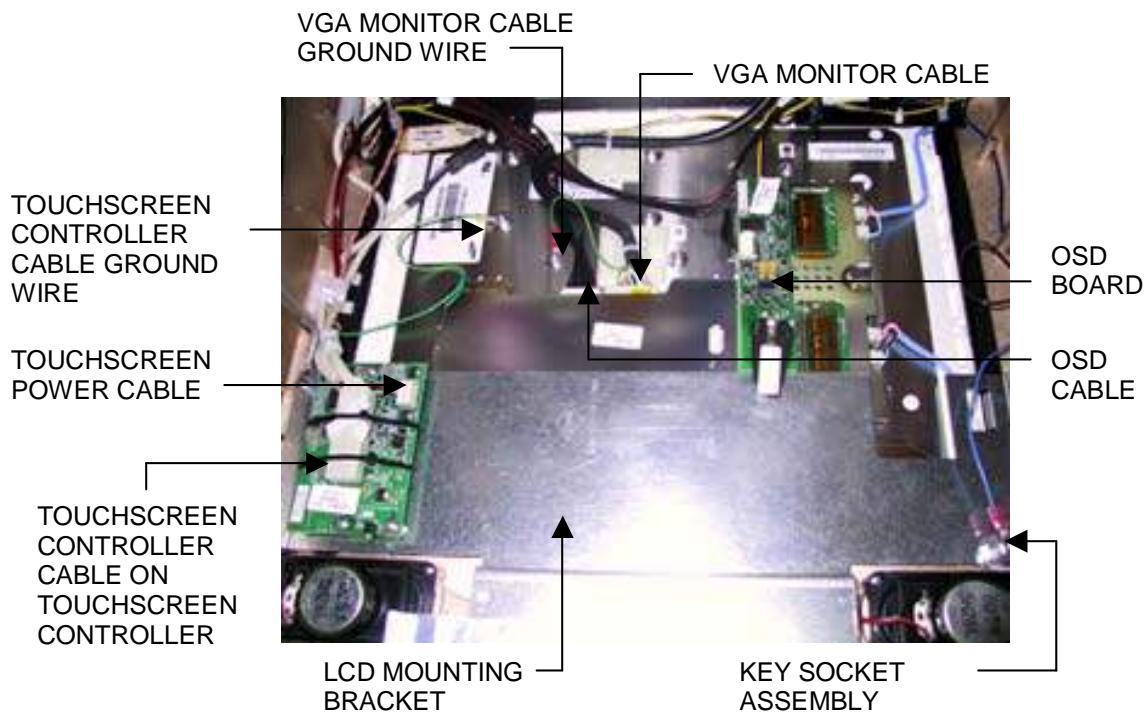

FIGURE 1 - CLOSE-UP OF CPU SECTION
3. Remove the screw and washer fastening the strain relief cord, then remove the remaining 5 screws fastening the LCD mounting bracket to the game. The key socket ground wire will also be removed in the process. See Figure 1.
4. Remove the nut, wire and bolt from the key socket assembly located on LCD mounting bracket, then remove the bracket. See Figure 1.
5. Carefully cut the tie wraps around the VGA monitor cable and remove the ground wire. Disconnect the cable from the monitor and the motherboard. See Figure 1. Unscrew the bracket on the underside of the I/O board to release the cable.
6. Remove the OSD cable from the twist clamp and disconnect it from the OSD board and the monitor. Then remove the OSD board from the Velcro attached to the back of the monitor and set it aside. See Figure 1.
8. Carefully cut the tie wrap around the touchscreen controller cable and disconnect the cable from the touchscreen controller. Also remove the ground wire. See Figure 1.
9. Disconnect the touchscreen power cable from the touchscreen controller (see Figure 1), then disconnect the Molex connector identified by the orange and gray wires.
4. Install the supplied LCD mounting bracket and fasten it to the game with the 6 screws. One screw (and washer) will fasten the strain relief cord, while another will secure the blue ground wire for the key socket. See Figure 1.
5. Replace the key socket assembly by securing the bolt, green wire and nut over the LCD mounting bracket. See Figure 1.
6. Connect the touchscreen controller cable to the touchscreen controller and secure it with a tie wrap. Also restore the touchscreen controller cable ground wire. See Figure 1.